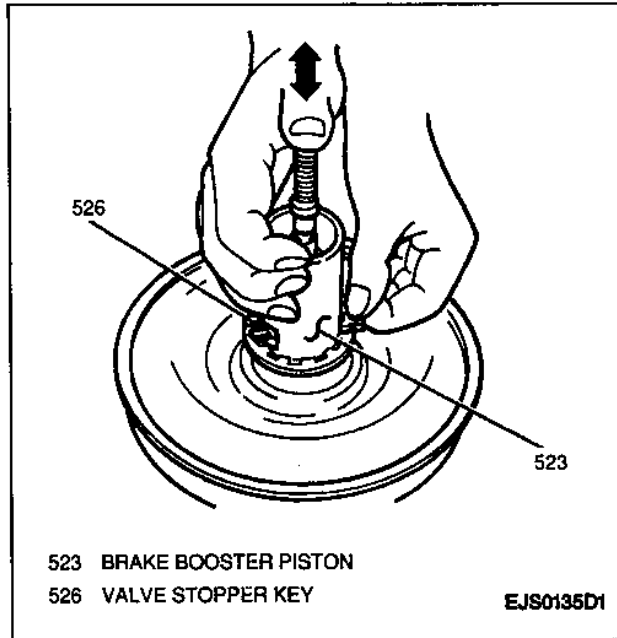

Figure 13—Removing Valve Stopper Key
12. Valve stopper key from brake booster piston while working air valve assembly in an in-and-out motion (Figure 13).